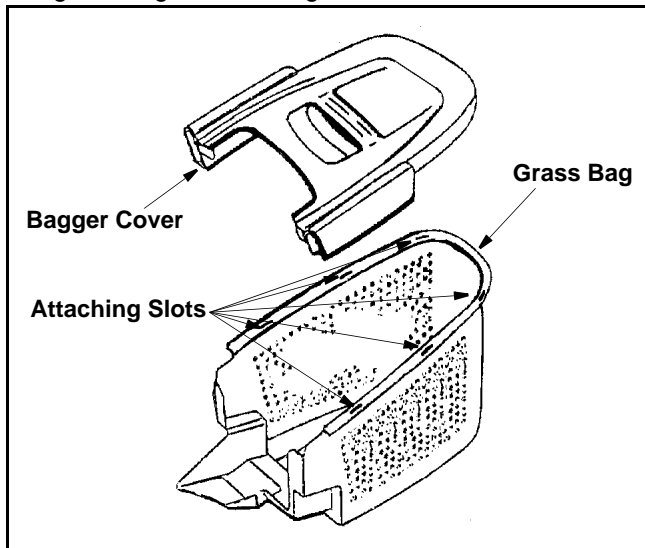

Figure 7
- Insert the six clips on the underside of the bagger cover into the corresponding attaching slots in the grass bag. Refer to Figure 7.